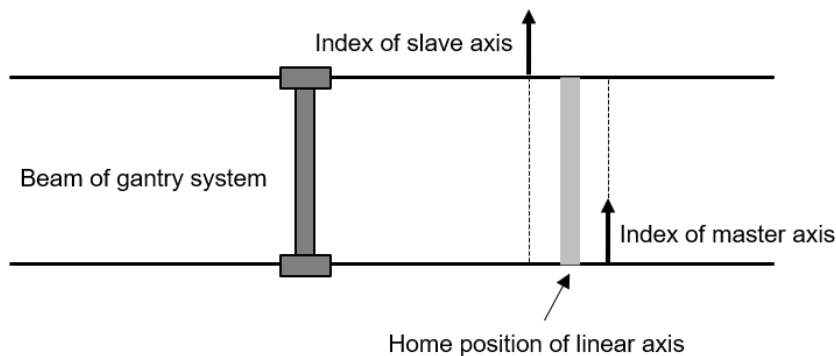

Figure 6.8.1
(2)	3057h	1: Activate gantry. 2: Deactivate gantry. 11: Execute yaw axis regulating.
- On gantry mode, Touch Probe value is not the index position of any single axis. Instead, it is the center point of both axes' index positions, as figure 6.8.1 shows.